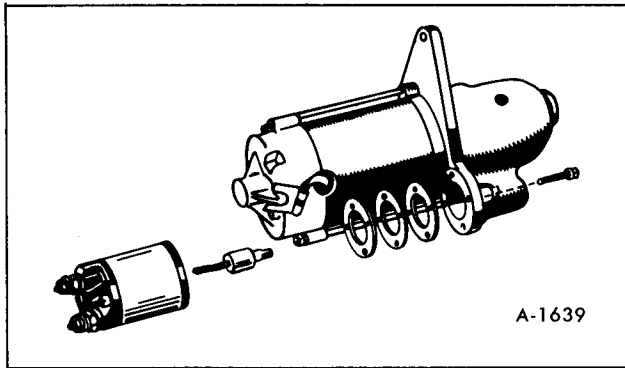

Figure 59—Removing Solenoid
2. Loosen the retaining screws and remove the solenoid from the front bracket. Simultaneously, the fiber washers, the return spring and the solenoid plunger will be removed (figure 59).